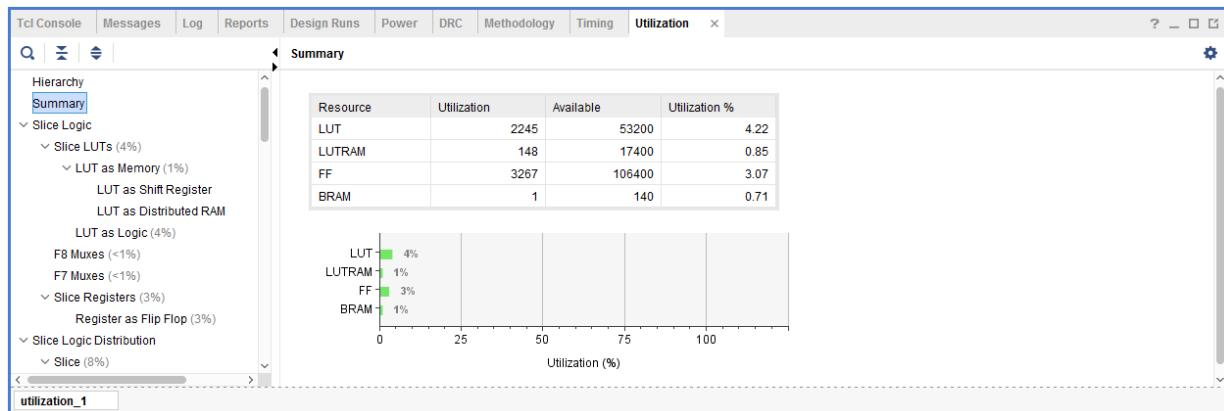

Figure 10.25: Utilization Report tab
6. The **Utilization** report will display at the bottom of the Vivado IDE, see Figure 10.25.